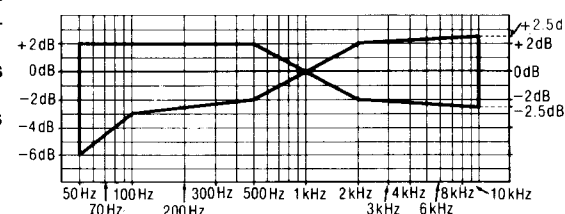
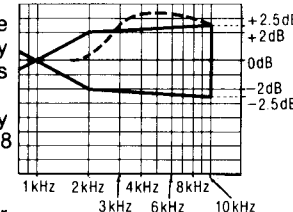
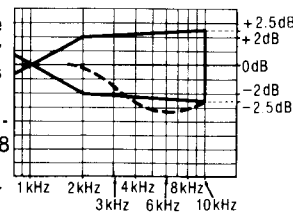

Fig. 12
Fig. 13
Fig. 14
6. Playback the signals recorded in step 6, and check if the frequency response curve is within the limits shown in the overall frequency response chart for normal tapes (fig. 12). (If the curve is within the charted specifications, proceed to steps 7, 8 and 9.) If the curve is not within the charted specifications, adjust as follows;
When the curve exceeds the overall specified frequency response chart (fig. 12) as shown in fig. 13.
- 2) Repeat steps 5 and 6 for confirmation (Proceed to steps 7, 8 and 9 if the curve is now within the charted specifications as shown fig. 12.)
- 3) If the curve still exceeds the specifications (fig. 12), increase bias current further and repeat steps 5 and 6.
When the curve falls below the overall specified frequency response chart (fig. 12) as shown in fig. 14.
- 3) If the curve still falls below the charted specifications (fig. 12), reduce bias current further and repeat steps 5 and 6.